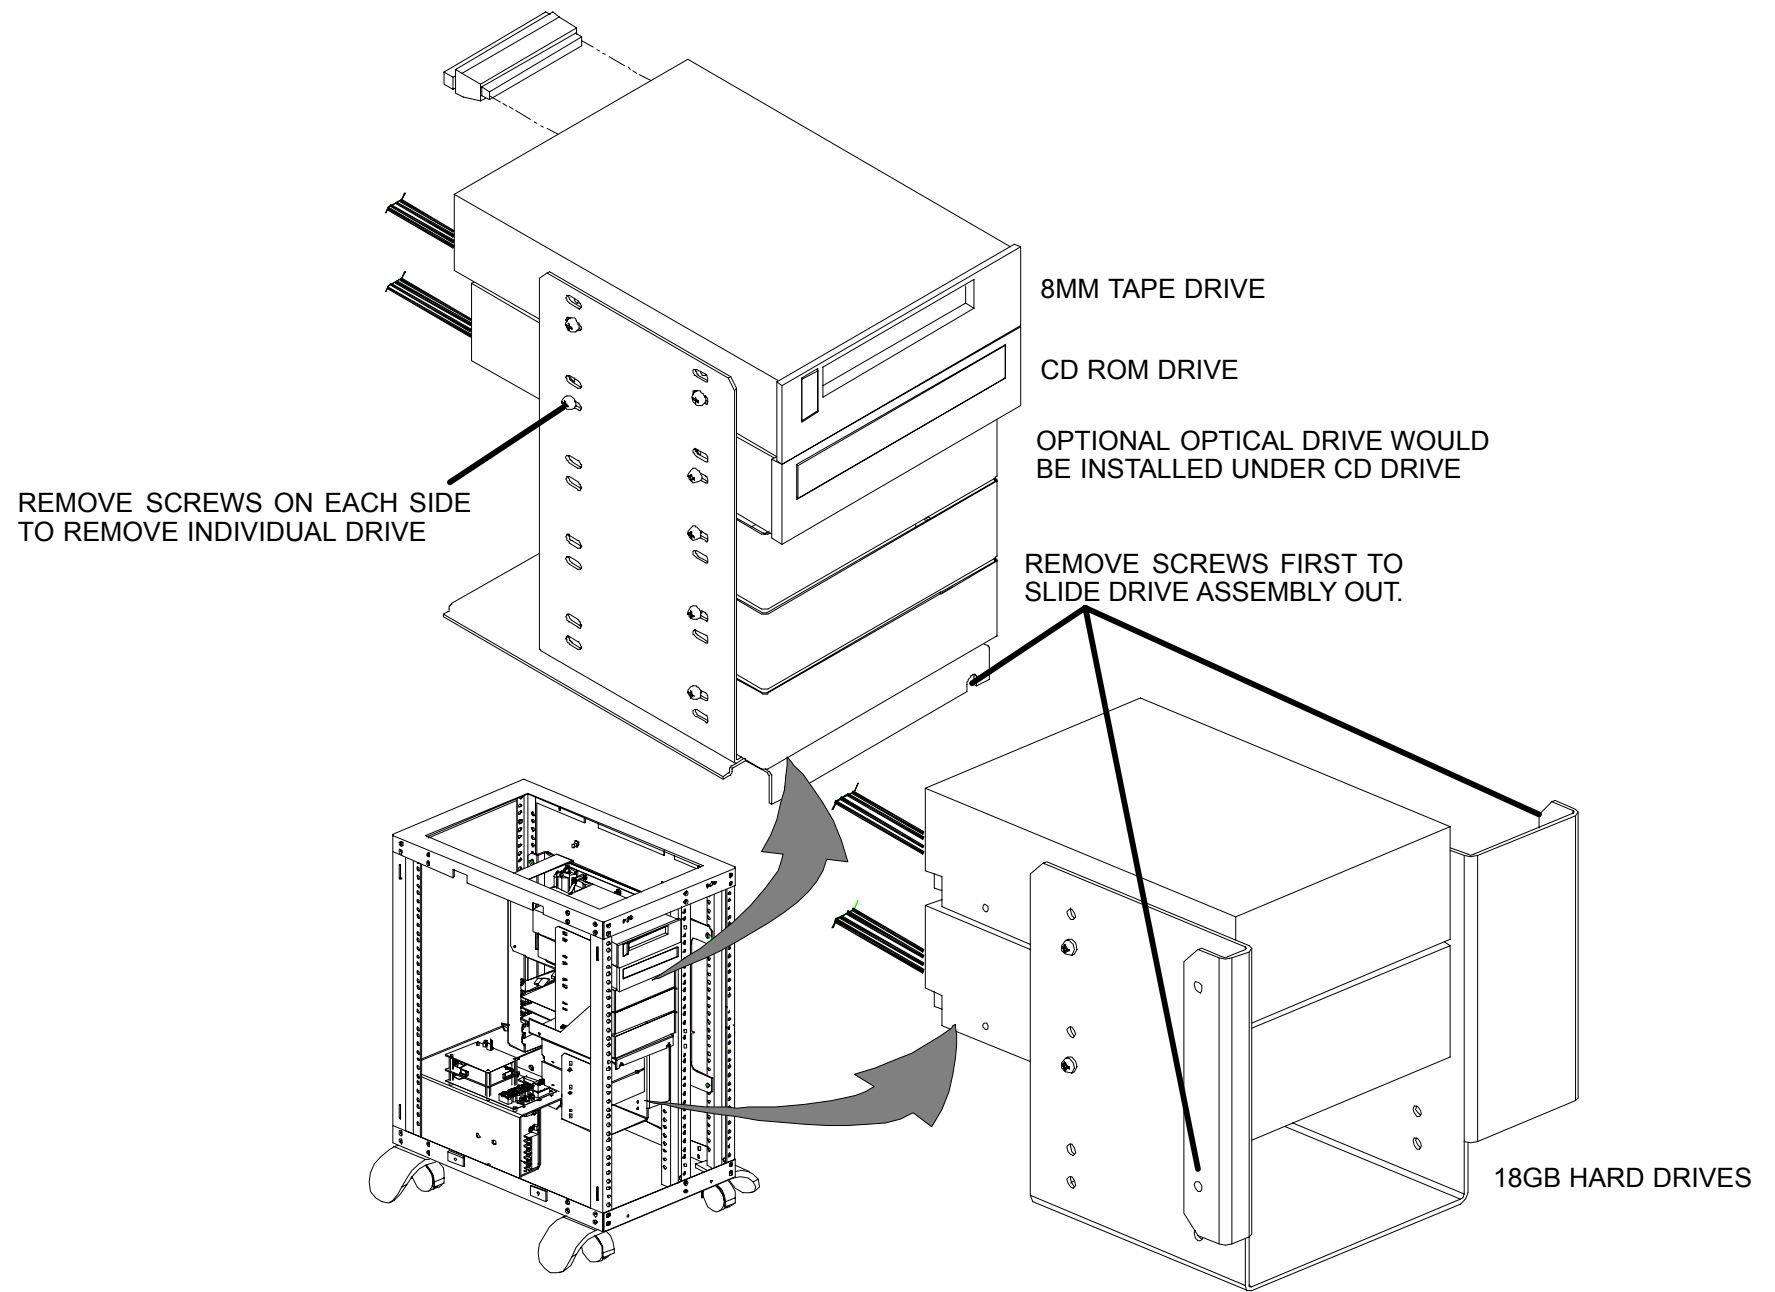

FIGURE 406 DISPLAY TOWER DRIVE LOCATIONS
3. Remove the two screws from the bottom of the assembly where the drive to be removed is located. Refer to Figure 406.
2. Loosen both of the screws that lock in the peripheral bay assembly. Refer to Figure 406.